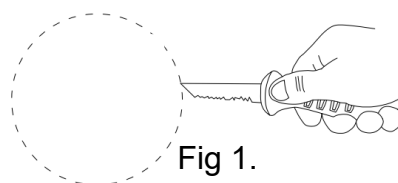

Fig 1.
6. Mark and cut out a **255mm diameter hole** for units 23030/05 and 23032/05. (Fig 1).
7. Mark and cut out a **300mm diameter hole** for units 23031/05 and 23033/05. (Fig 1).